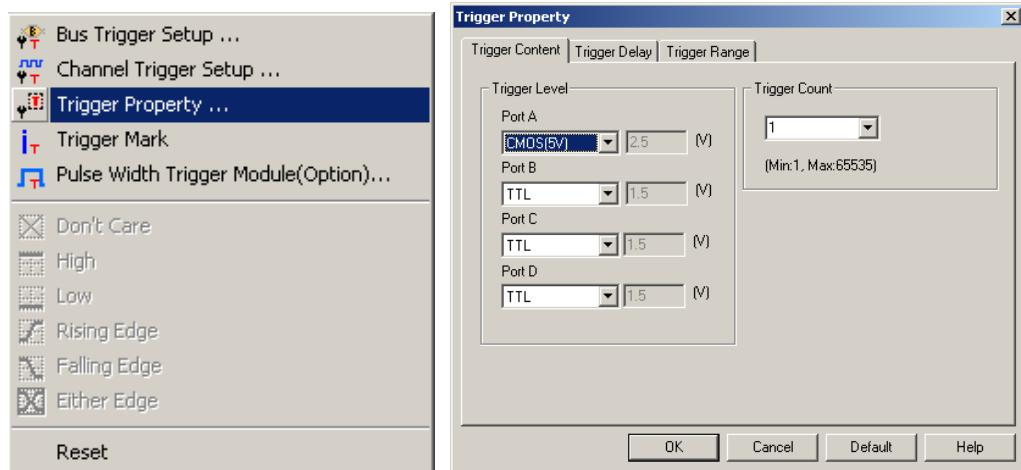

Fig 4-4 - Trigger Property
**Step1.** Click icon or click **Trigger Property** from the Trigger on the Menu Bar. The dialog box will appear as shown in Fig 4-4.